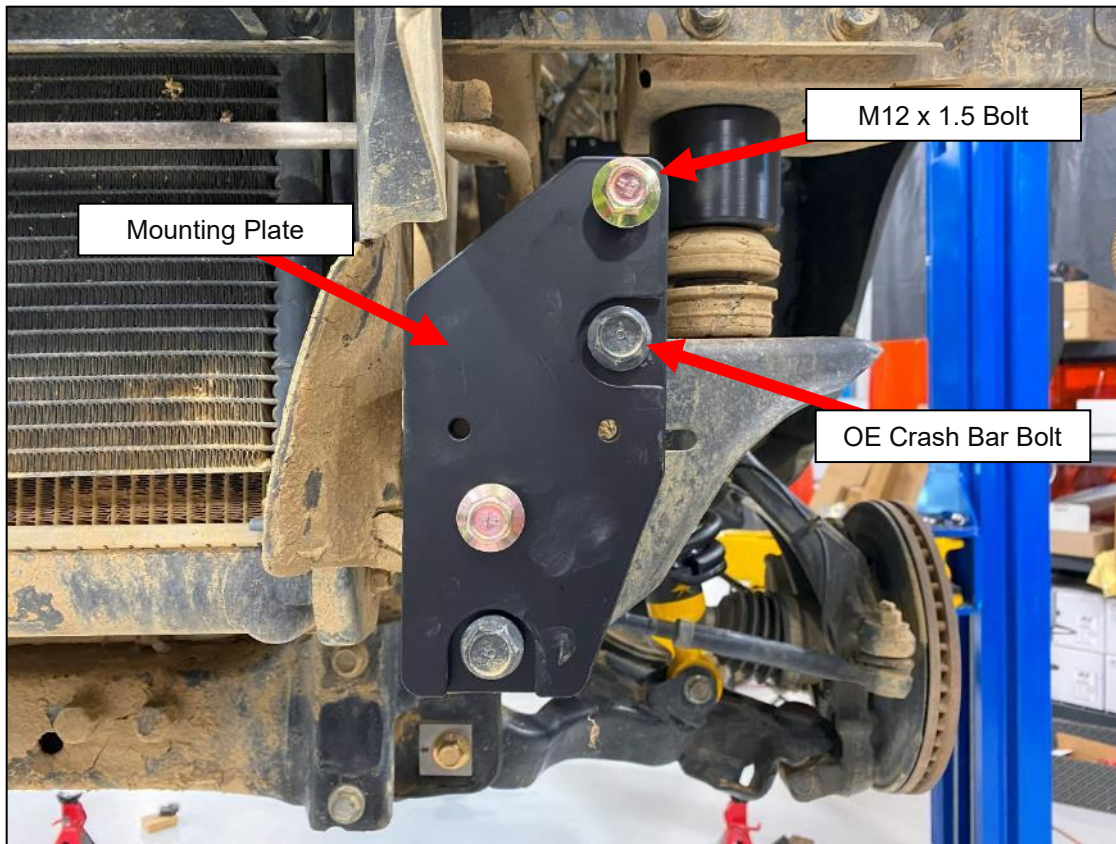

Figure 16
30. Locate (4) four M10 x 1.25 Flanged Hex Head Screws and loosely thread them through the Frame and Spacers and into the Truck Bed. It is recommended to use thread locker on these bolts.
32. Torque the (4) four M10 Screws to **16 ft-lbs.**
33. Locate the (2) Front Bumper Relocation Brackets, (4) four M12 x 1.5 Bolts, and the OEM Crash Support Hardware. Position the Brackets onto the front mounting points and use the OEM Bolts to secure the Mounting Bracket. Torque the OE bolts to **62 ft-lbs**. *Figure 16.*